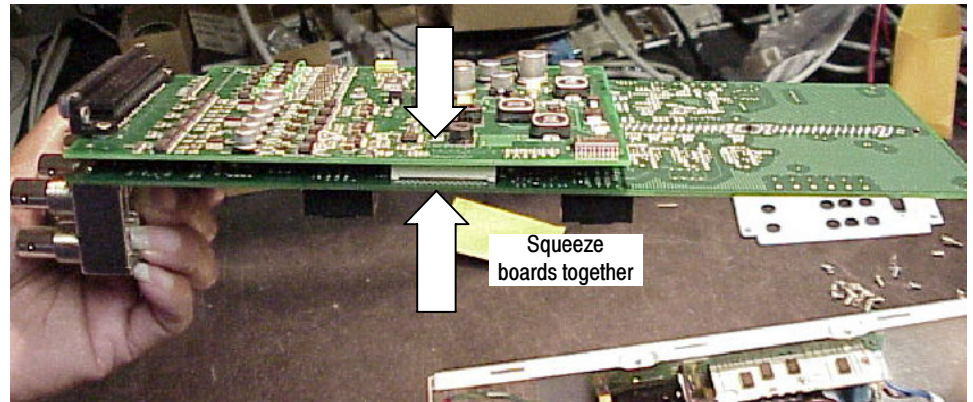

Figure 11: Checking the inter-board connection
3. **Option AD, ADL, DD, DPEL, and DDE only.** On the new audio module, carefully squeeze the two circuit boards together near the inter-board connector (see Figure 11) to verify that the connector is fully seated.